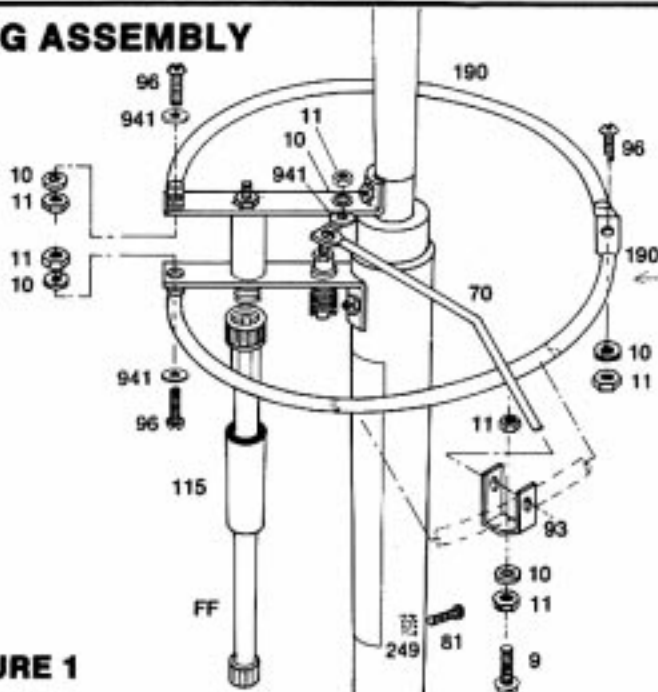

FIGURE 1
All steps for assembling the ring and tuning assembly to the base section (AA) are shown in figure 1. Mount one ring section (190) to the bottom side of the lower bracket on the base section. Mount the remaining ring section (190) to the top side of the upper bracket on the base section. Connect the two ring sections, forming a circle around the base section.
The radiating section should be layed out in the proper order according to figure 3. All of the tubing should be positioned so that the slotted end is toward the next smallest piece of tubing. Starting at the base insert each section 4" (10.2 cm) into the next larger piece of tubing and secure by tightening the proper size hose clamp. Place the hose clamp close to the end over the slotted portion of each piece of tubing. Adjust tubing section EE according to chart A. Press the 1/2" (1.3 cm) black plastic cap (53) onto tubing section EE. Place the mounting lock nut (249) in the indentation of the base section (AA), so that the four points on the locknut point toward the mast. Thread the mounting screw (81) through the hole in the base section and the mounting locknut. Slide the mast into the base section, tighten the screw and nut securely against the mast as illustrated in figure 1.